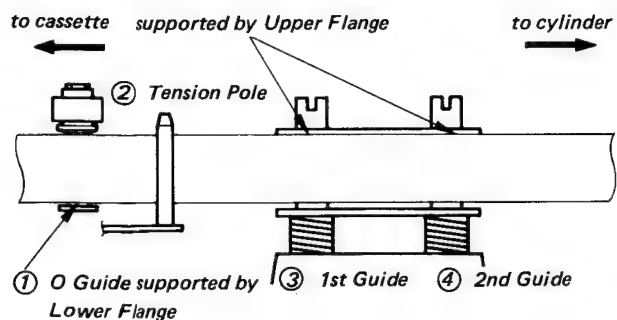
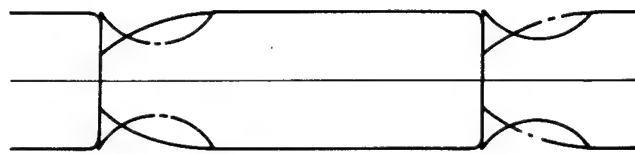

Fig. 5-115 Entrance Side Tape Path Adjustment
Fig. 5-122 Entrance Side Envelope Wave-form
1. Misalignment of tape path → Proceed Entrance guide adjustment. (refer to Fig. 5-115)
check the tape path → Proceed Entrance guide adjustment. (refer to Fig. 5-115)
6. Replacement of Full width erase head → Proceed Entrance guide adjustment. (refer to Fig. 5-115)
**5-a. Entrance side adjustment (Fig. 5-115)**
C. Adjust the height of 1st ③ and 2nd ④ guides to maintain that the clearance between the guide upper plates and the tape upper portion is 0.5 mm approximately (see Fig. 5-115) and confirm that there is no cross portion in the envelope (see Fig. 5-122).